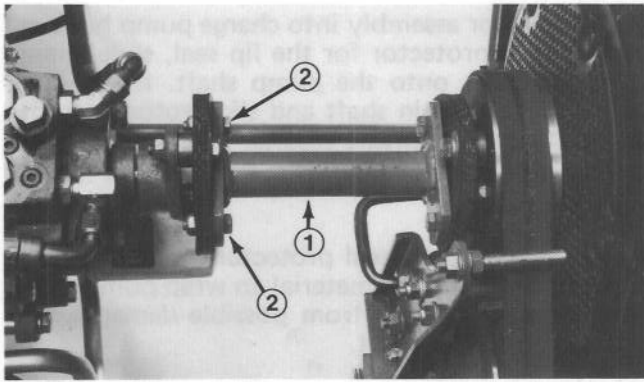

Figure 77
2. Remove capscrews, locknuts and spacers securing drive coupling assembly between engine pulley and transmission hub (Fig. 77). Slide drive coupling assembly from between the hub and pulley.
2. Slide two capscrews through transmission hub and install locknuts onto the capscrews (Fig. 77). Tighten capscrews and locknuts.
3. Secure other end of rubber coupling to engine pulley with capscrews, lockwashers and flatwashers (Fig. 77).